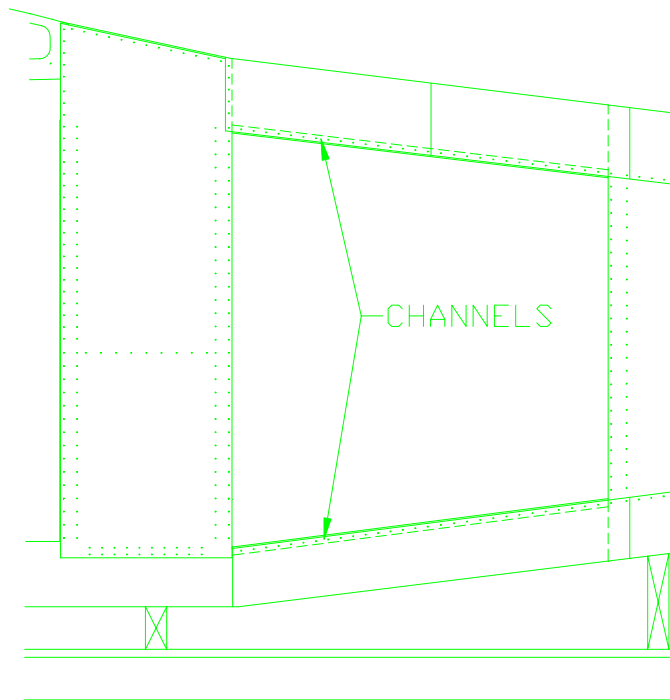

FIGURE 12
58) Cut two lengths of FUS-300 channel to fit between station 8 and bulkhead B parallel to the corner wraps. Figure 12